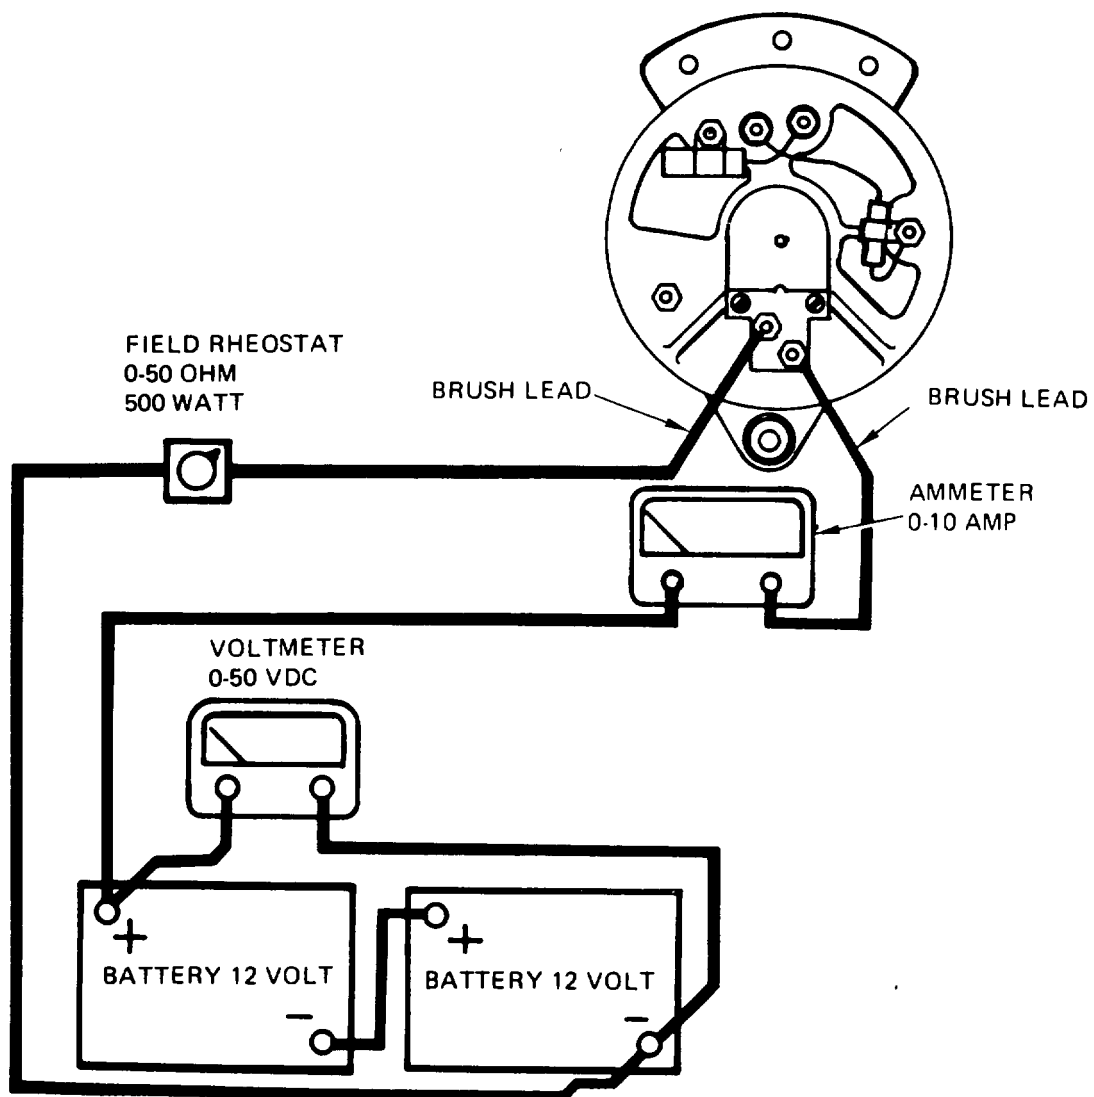
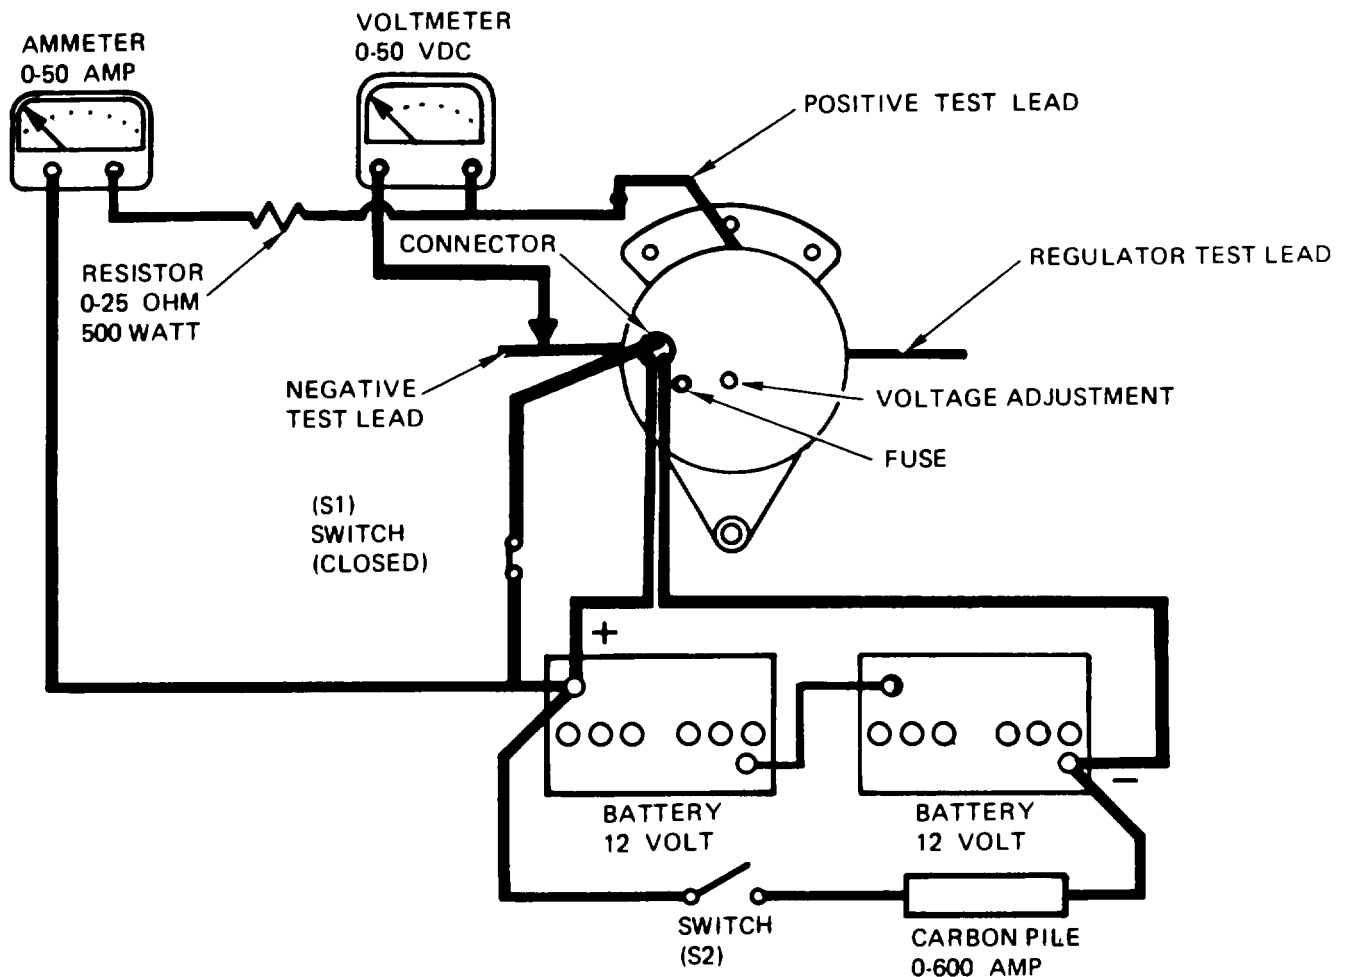

Figure 3-13. Field Current Test
Figure 3-14. Output and Voltage Protector Test.
- (a) Install alternator in test circuit as shown in figure 3-13.
- (9) Conduct alternator output and voltage protector test as follows:
- (a) Install alternator in test circuit shown in figure 3-14.